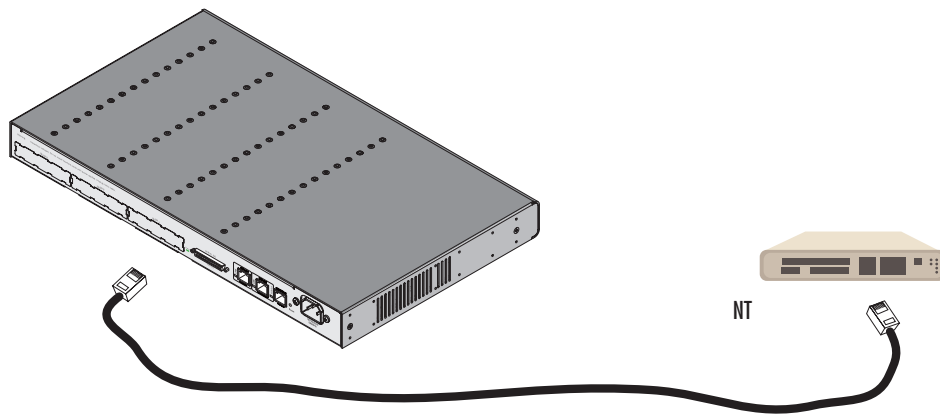
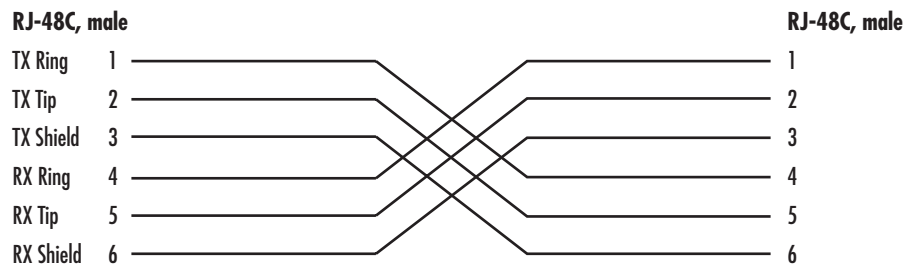

Figure 77. Connecting an T1 PRI port to an NT
Figure 78. T1 crossover cable
The PRI is usually connected to a PBX or telco switch—local exchange (LE). The type and pin outs of these devices vary depending on the manufacturer. In most cases, a straight-through RJ-45 to RJ-45 can be used to connect the PRI (see table 38 for IC-T1V card port pin-out listing) with a PBX (an NT) (see figure 77). A cross-over cable is required to connect to an LE, as illustrated in figure 78.